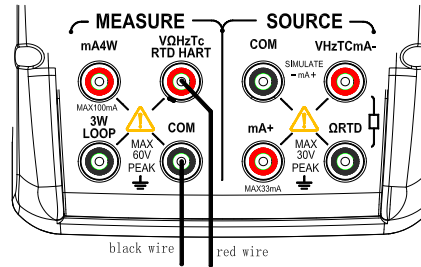

Figure 11. Measuring DC voltage, Ohms, frequency , continuity and switch
Step 5: Connect the lead cables for measurement to the measuring terminals of the measuring calibrator under test as shown in Figure 11.
9.5 Measuring Temperature with Thermocouple (TC)
Step 3: Connect the lead cables for measurement to the measuring terminals of the measuring calibrator under test as shown in Figure 11.